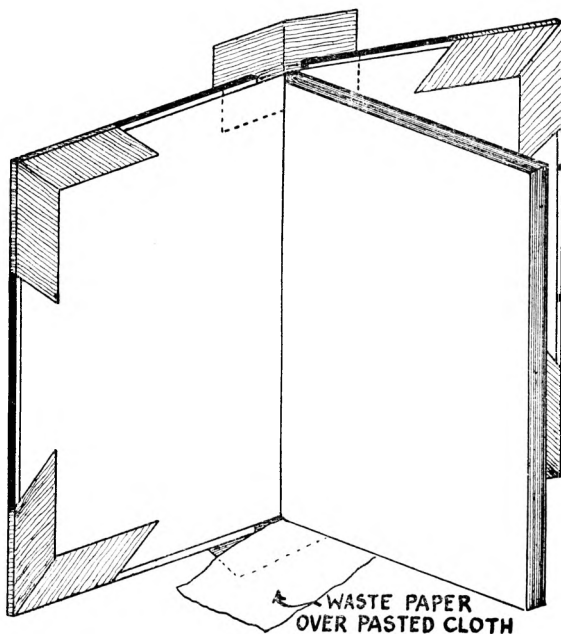

Fig. 27
29. Open both boards and place a scrap of waste paper on the pasted cloth projecting at the tail and stand the book upright on the bench as shown in fig. 27.